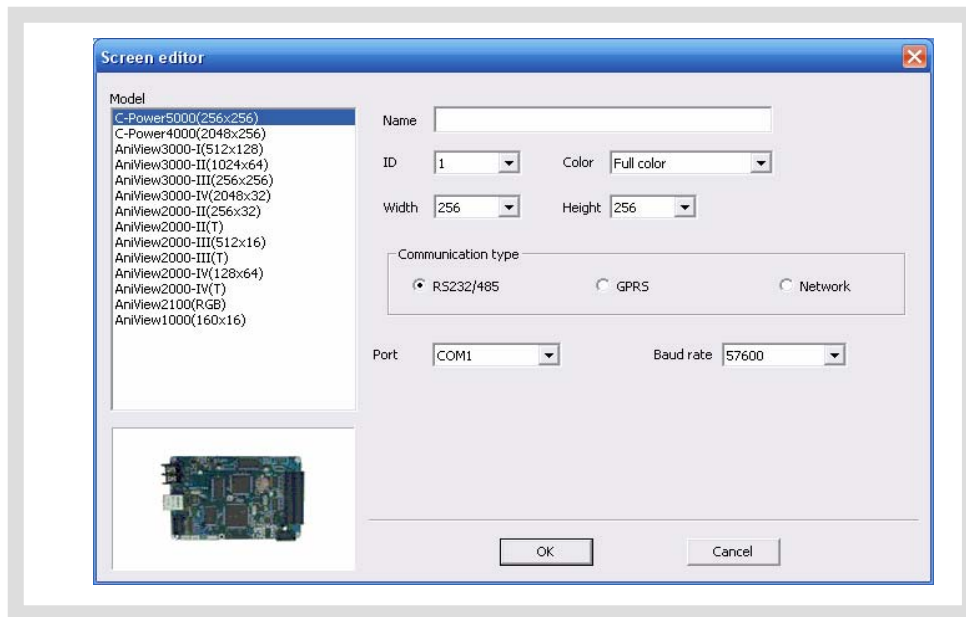
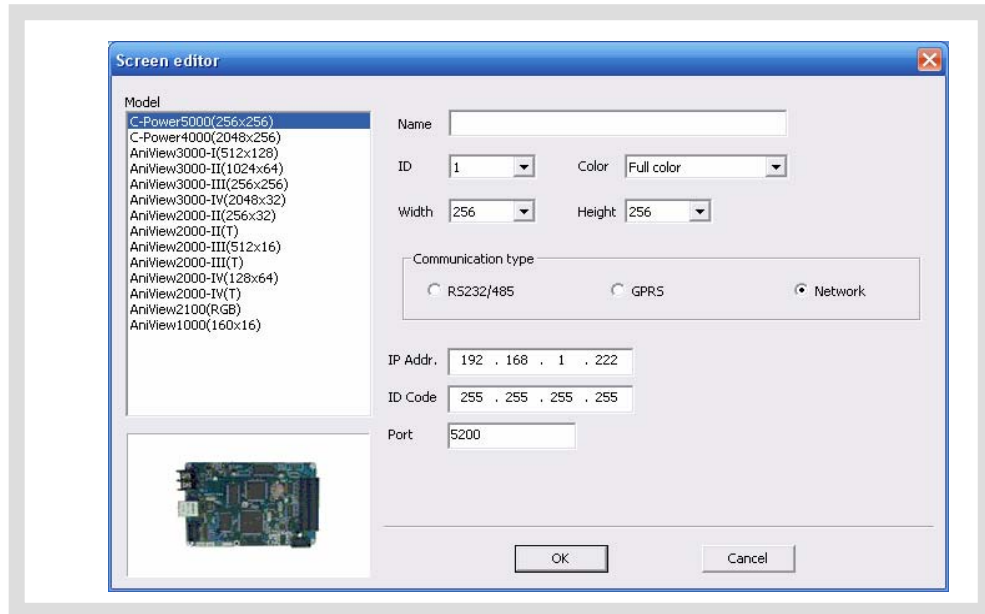

Figure4 “Screen editor” dialog box under COM port mode
Figure5 “Screen editor” dialog box under network mode
- 3) Enter password in the authority confirmation box, and the box of “Screen editor” pops up, as shown in Figure4 and Figure5.